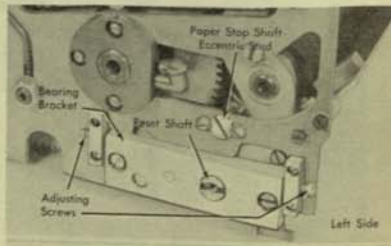
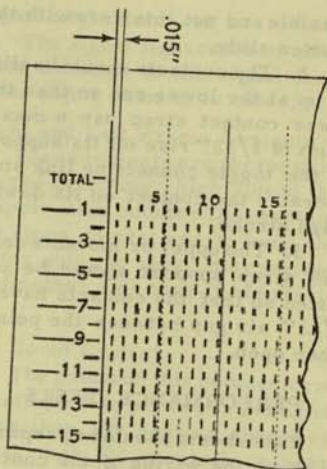

Figure 32
Figure 33
1. Adjust the paper stop shaft eccentric studs on each side of the unit (Figure 32) so that the first marks printed on the graph form appears $.015''$ above the bottom guide line across the form (Figure 33).